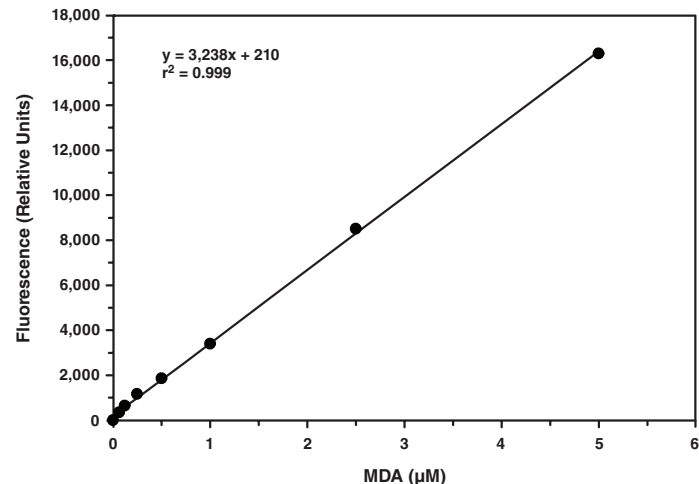

Figure 4. MDA fluorometric standard curve
4. Calculate the values of MDA for each sample from the standard curve. An example of the MDA standard curve is shown on page 19 in Figure 4.